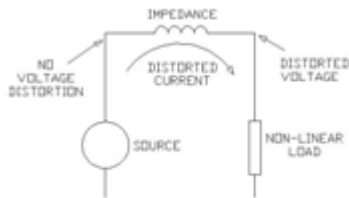

Figure 4 – Distorted-current induced voltage distortion
- When a non-linear load draws current that current passes through all of the impedance that is between the load and the system source (See Figure 4). As a result of the current flow, harmonic voltages are produced by impedance in the system for each harmonic.